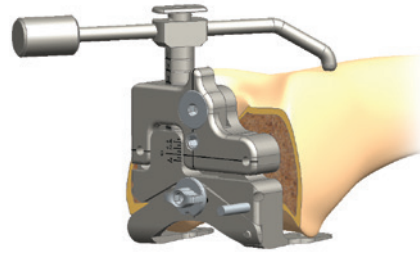

Figure 16
- 3 Position the sizing guide stylus so that it contacts the lateral ridge of the anterior femoral cortex (highest point on the anterior cortex of the femur) (Figure 16).